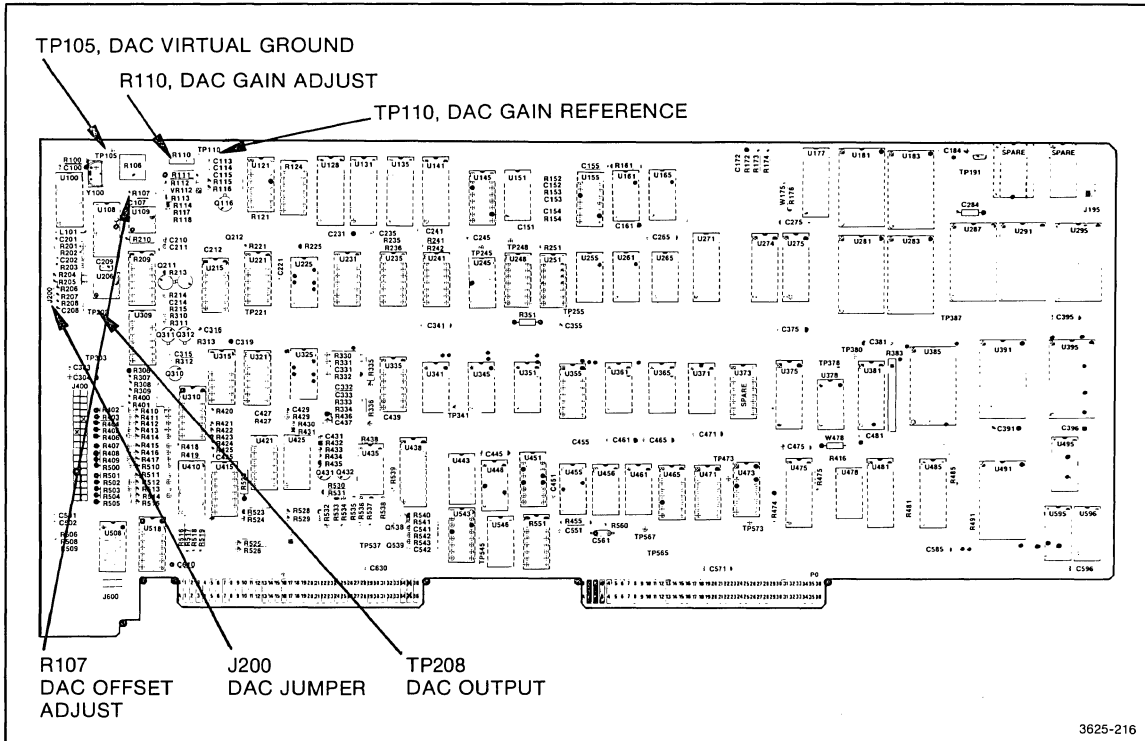

Figure 5-50. Trigger/Time Base board test point and adjustment locations.
5. Connect the positive lead of the DMM to test point TP208 on the Trigger/Time Base board (see Figure 5-50). Connect the DMM ground lead to TP105 on the Trigger/Time Base board.
3. Move the shorting jumper at J200 on the Trigger/Time Base board from pins 2 and 3 to pins 1 and 2 (see Figure 5-50).
4. Move the positive lead of the DMM to TP110 (see Figure 5-50). Leave the ground lead of the DMM at TP105.
6. Move the positive lead of the DMM to TP208 on the Trigger/Time Base board (see Figure 5-50).
7. Adjust potentiometer R106 (see Figure 5-50) for 0.00 V, ± 1 mV across these two points.